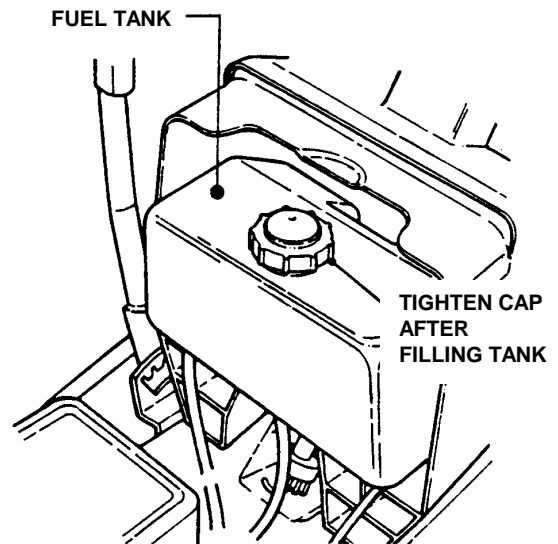

FIGURE 2.2
**2.1.6.** With engine "OFF" move the tractor outside and add fuel to the fuel tank. Securely tighten fuel cap after refueling. Refer to engine owner's manual for fuel specifications. See Figure 2.2.